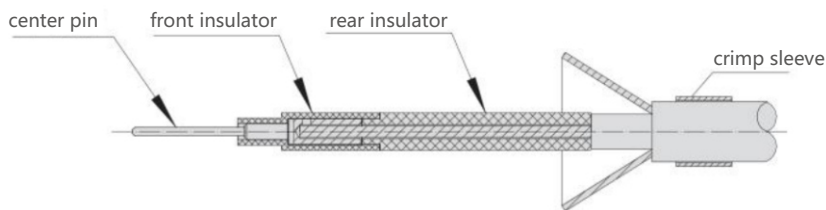

Figure 1.12
- ⑤ Install the front insulator onto the center pin as shown in Figure 1.12, and ensure the contact area between the two insulators is tightly abutted.